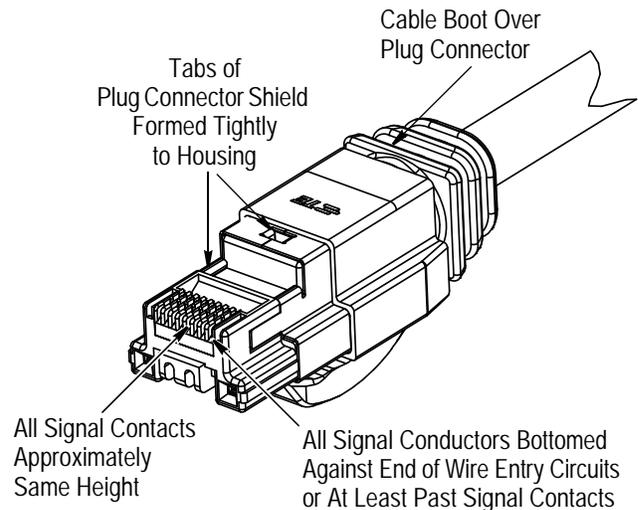

Figure 9
10. Using Crimping Tool 2217400-1, crimp the plug connector according to 408-32098. Inspect the crimp using the following criteria (refer to Figure 9):
11. Slide the cable boot over the plug connector shield so that latches of the cable boot engage with the openings of the plug connector shield. See Figure 9.